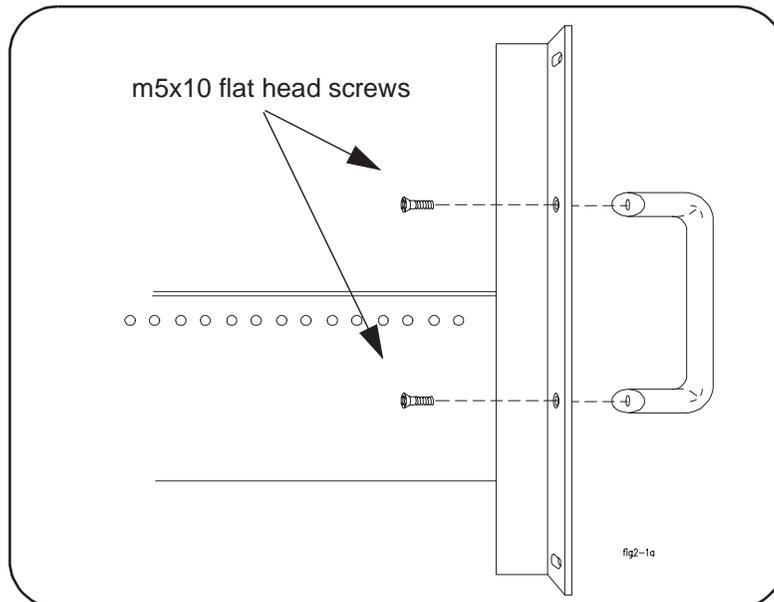

Figure 2-5. Attaching Handles to the Adapters (Standard kit p/n E8400-80923).
1. Attach the handles to the standard adapters using the m5x10 flat head screws (Figure 2-5). Handles are included only with the HP E8400A Standard Adapter Kit.